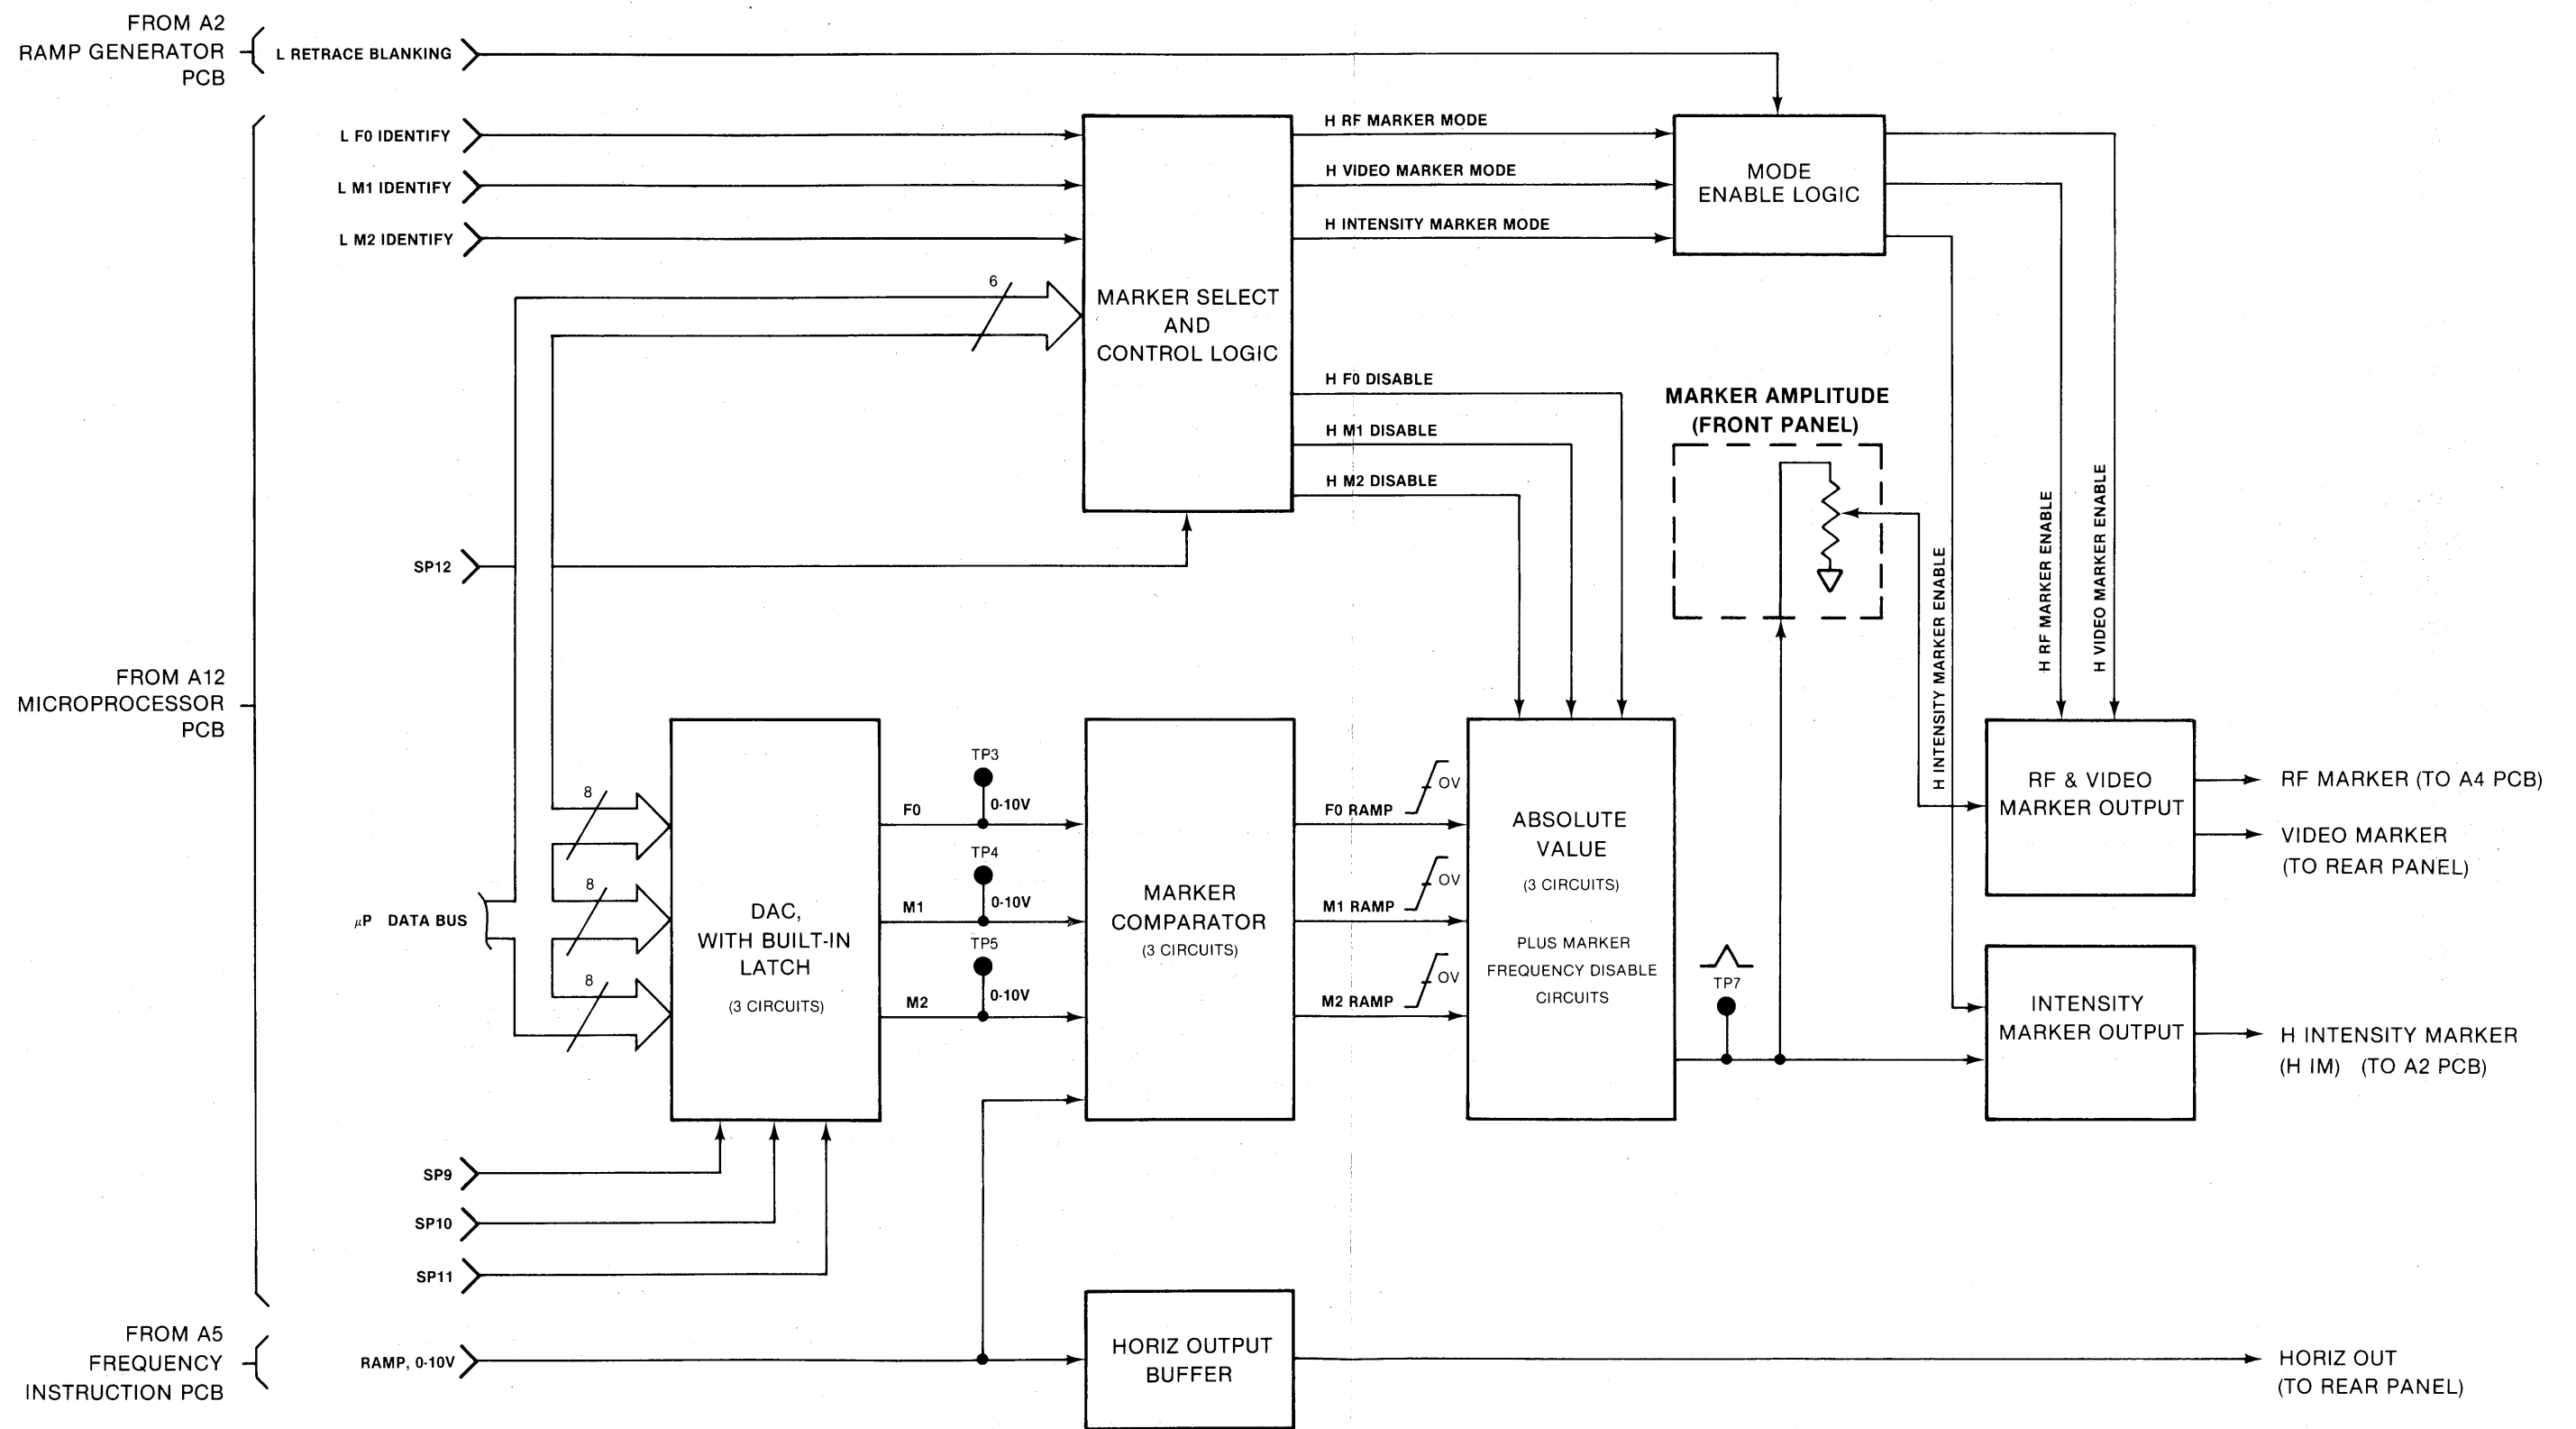
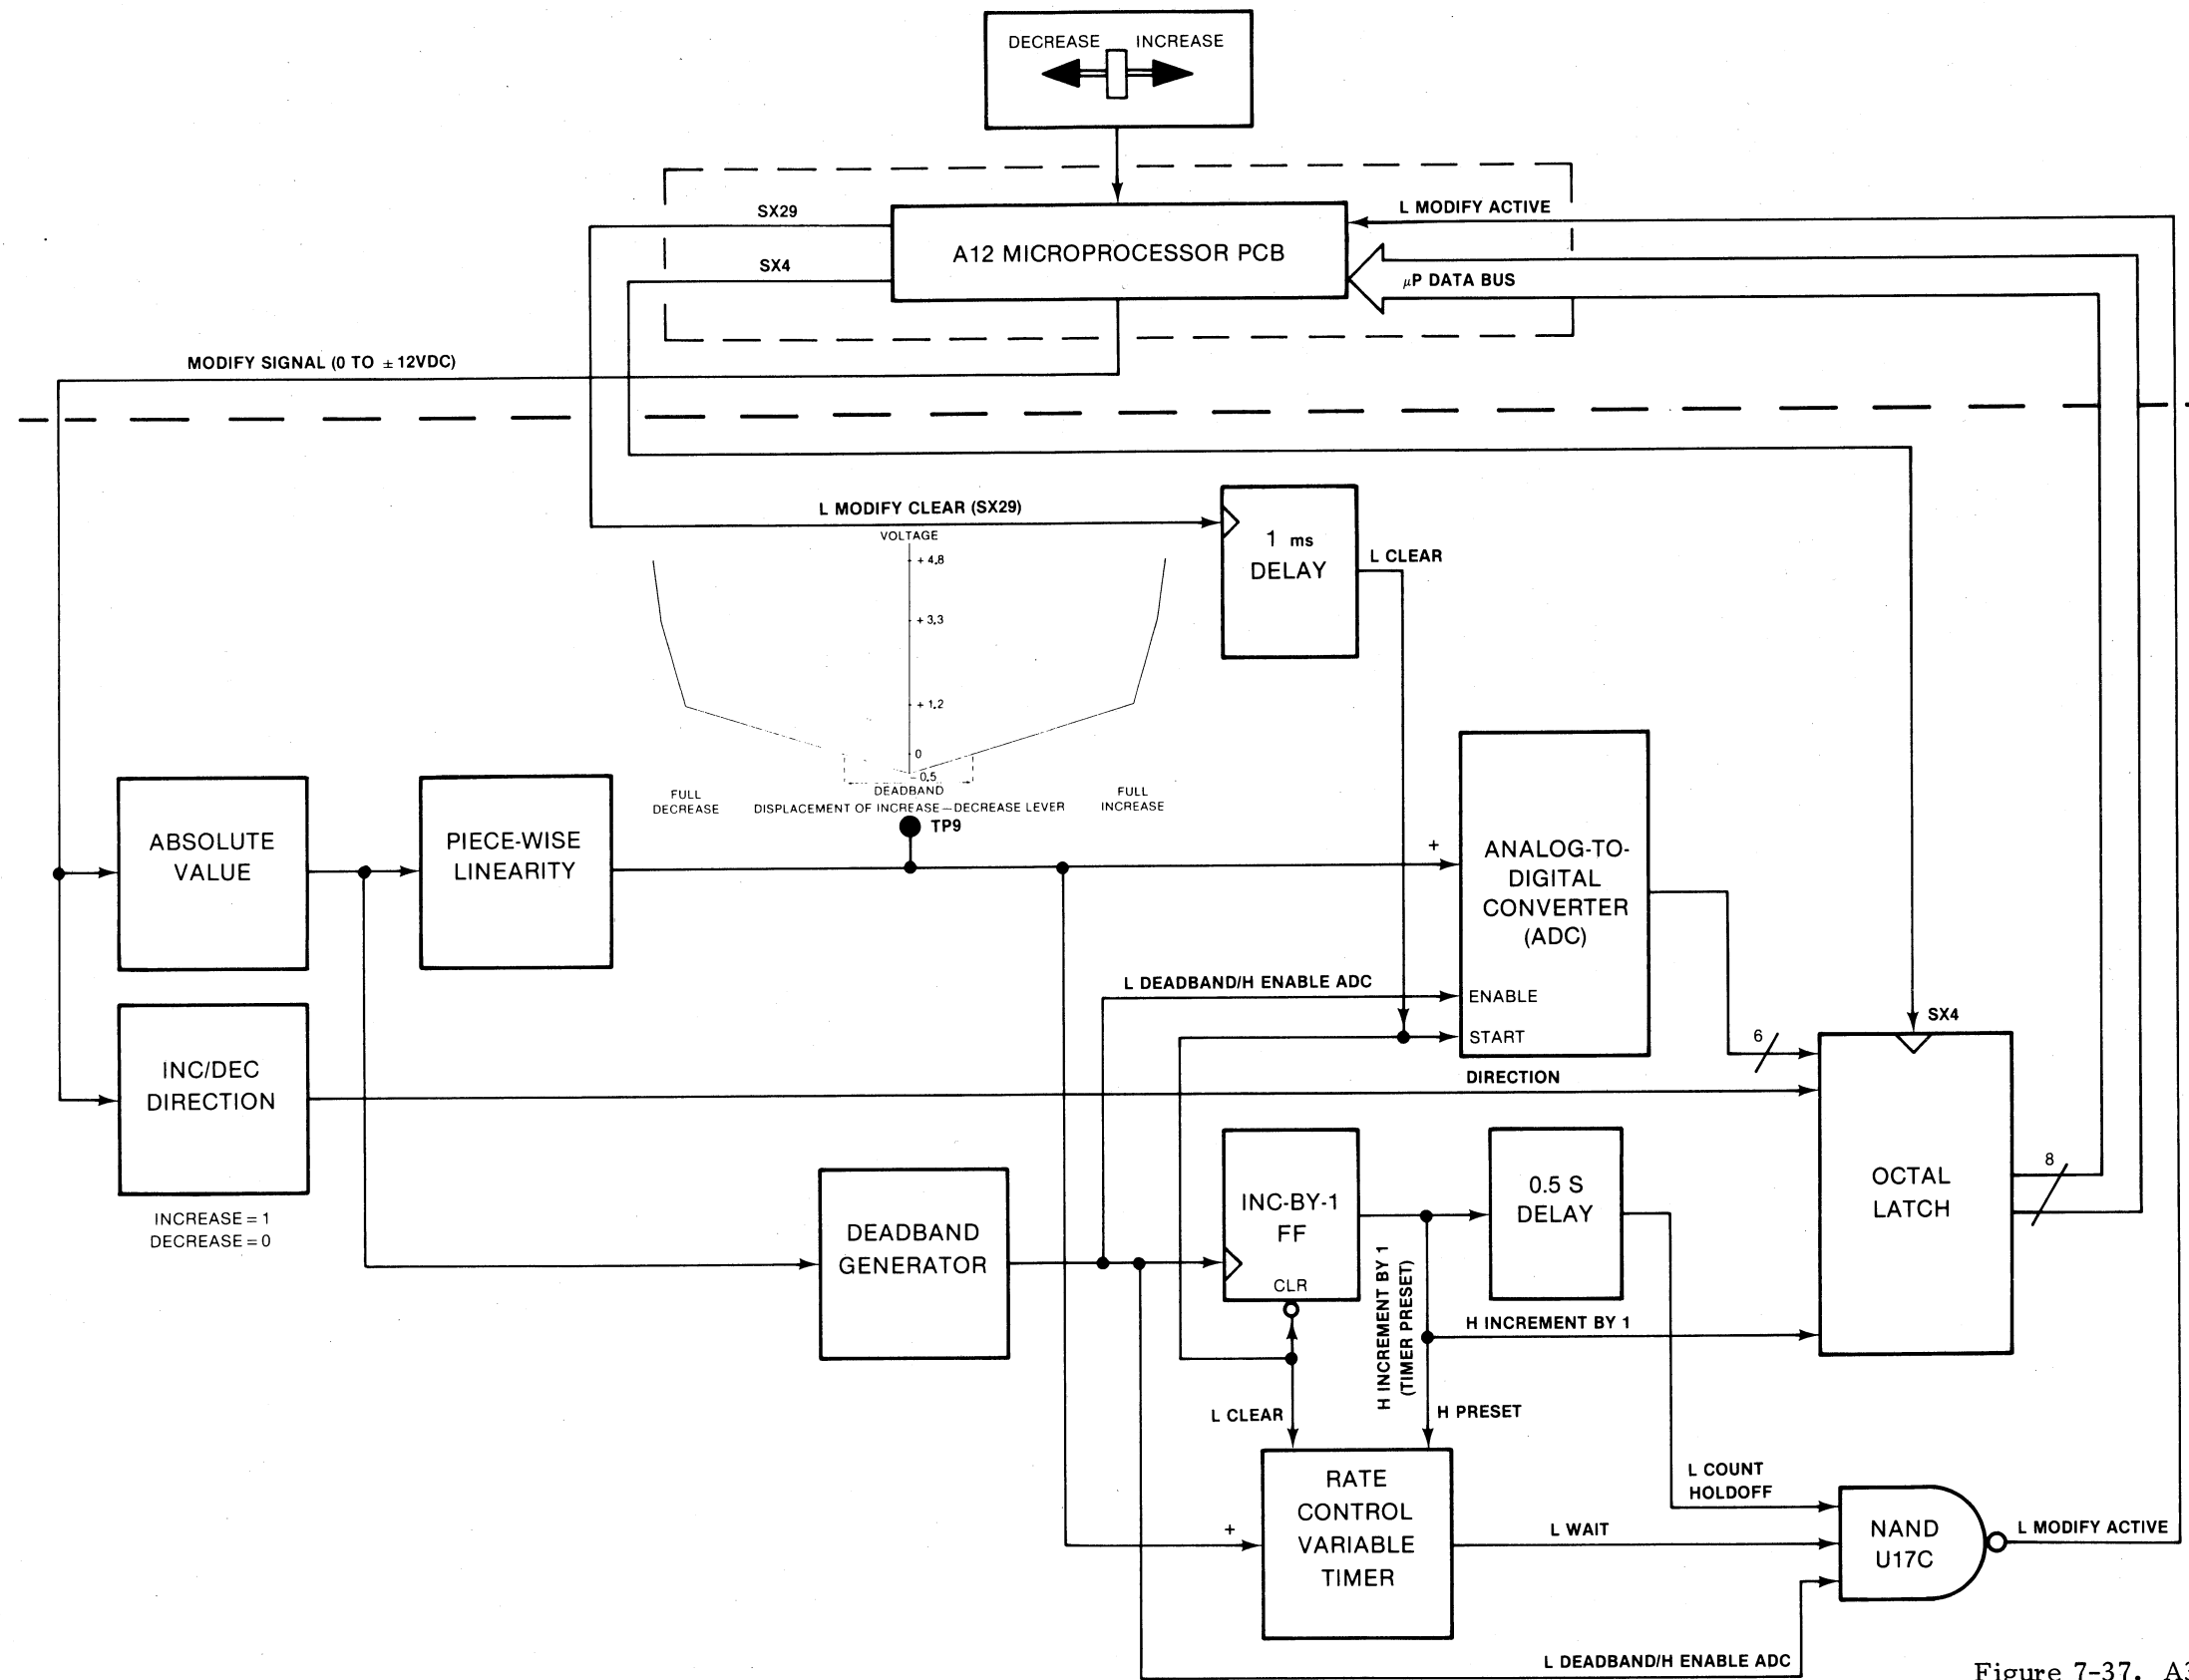

Figure 7-36. A3 PCB Marker Generator Functional Block Diagram
Figure 7-37. A3 PCB INCREASE/DECREASE Logic Circuit Functional Block Diagram
The A3 Marker Generator PCB generates the RF, Video, and Intensity markers. In addition, the PCB also contains the logic circuitry associated with the front panel INCREASE/DECREASE lever. A functional diagram of the marker generator circuitry is shown in Figure 7-36, and a similar diagram for the INCREASE/DECREASE lever logic circuitry is shown in Figure 7-37. The A3 PCB schematic diagram (4 sheets) is contained in Figure 7-38, and the circuits are described below.
a. Marker Generator Circuits. As shown in Figure 7-36, the inputs to the Marker Generator are a 0-10V sweep ramp from the A5 PCB and the retrace blanking control line from the A2 PCB, plus the data bus and several control lines from the A12 PCB. The 0-10V sweep ramp (**RAMP, 0-10V**) may be either the **RAMP OUT** signal from the A2 PCB, the **MAN SWEEP INPUT** from the front panel, or the Step Freq DAC signal (paragraph 3-7.2) from the A5 PCB. The inputs from the A12 PCB are as follows:
The first function the circuit performs is to increase or decrease the selected parameter's value in one-increment steps. As shown in Figure 7-37, the INCREASE/DECREASE lever logic circuitry is connected in a control loop with the A12 Microprocessor PCB. The INCREASE/DECREASE lever itself is connected to the A12 PCB. This lever controls, via circuitry on the A12 PCB, the voltage level of the **MODIFY SIGNAL** input line to the A3 PCB. When the lever is moved from its center position, the **MODIFY SIGNAL** line's voltage value is between either 0 and -12 Vdc or 0 and +12 Vdc. The voltage's polarity and value depend on the direction and length of INCREASE/DECREASE lever displacement. Displacement in the DECREASE direction yields a positive voltage, and displacement in the INCREASE direction yields a negative voltage. This 0 to ± 12 Vdc voltage goes to two places on the A3 PCB: the Absolute Value and the Inc/Dec Direction circuits.